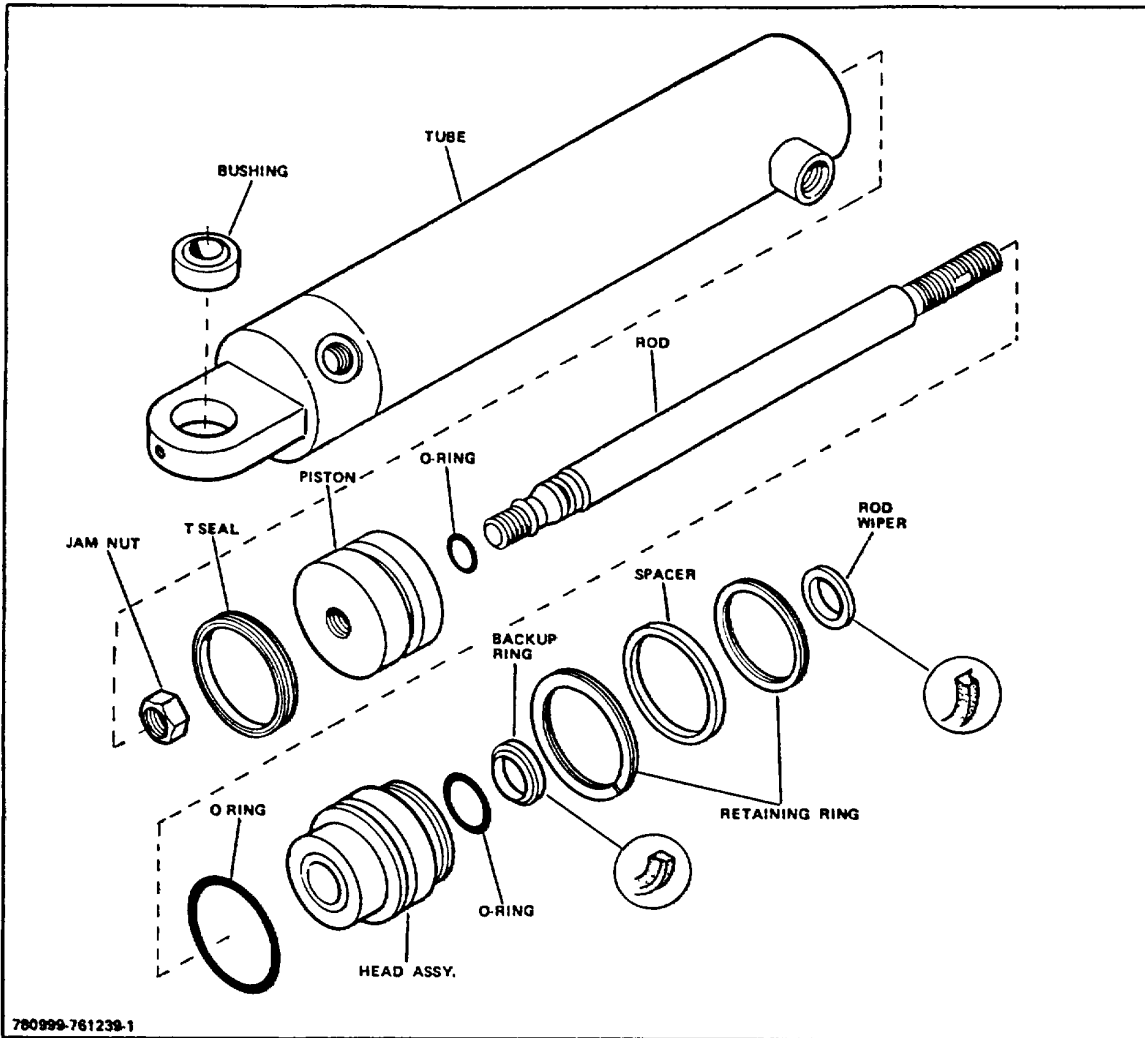

Figure 2-4. Power Steer Cylinder Assembly
6. To disassemble removable piston cylinders (Fig 2-4), proceed as follows:
2. To assemble a removable piston cylinder assembly (Fig 2-4), proceed as follows: